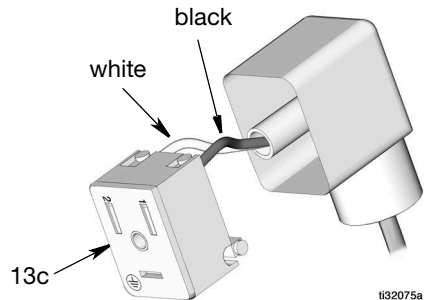

FIG. 7
- Remove the retainer plate (13c) from the DIN connector (FIG. 7).
Inside the DIN connector, disconnect the black wire from the terminal labeled 1, the white wire from the terminal labeled 2 (FIG. 7). If the connector is not damaged, it can be reused for assembly with the longer cord in Step 12, Page 8.